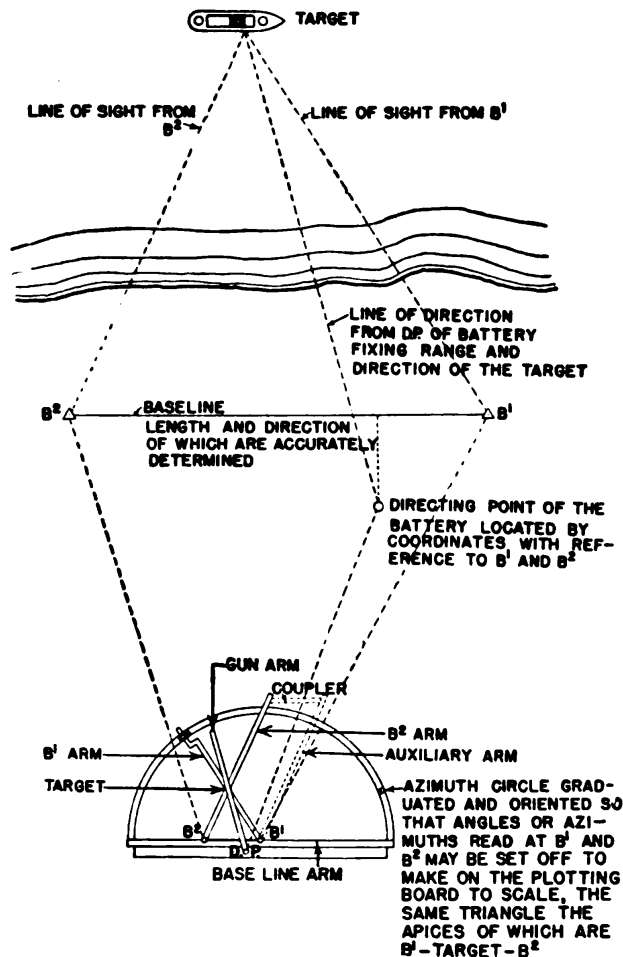

FIGURE 33.—Principles of horizontal base position finding.
- (1) Horizontal base.
- (2) Vertical base.
- (3) Self-contained base.
Q. How is a target tracked by horizontal base? *A.* Two observation stations are selected and the azimuth and distance from one to the other determined by surveying. The line connecting the two stations is called the base line. The direction and distance of the directing point of the battery from one or both of the stations is also determined. These three points are then located, to a small scale, on a plotting board in the same relation to each other as on the ground. An observer with an azimuth instrument is located in each observation station. Each observer determines the azimuth of the target from his station at the end of equal time intervals and telephones it to the plotting room. Arms on the plotting board, which are pivoted at each of the positions representing the stations, are set to the azimuths received from the observers, and the intersection of the arms represents the position of the target (see fig. 33). Such a